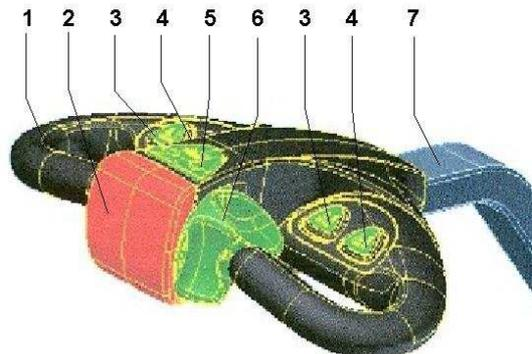

Fig. 2
- check the jam safety on the steering handle by pressing the safety switch (2, fig. 2), the Multi-Mover XL35 should not start in that case.
Steering handle (Tiller head) (fig. 2)